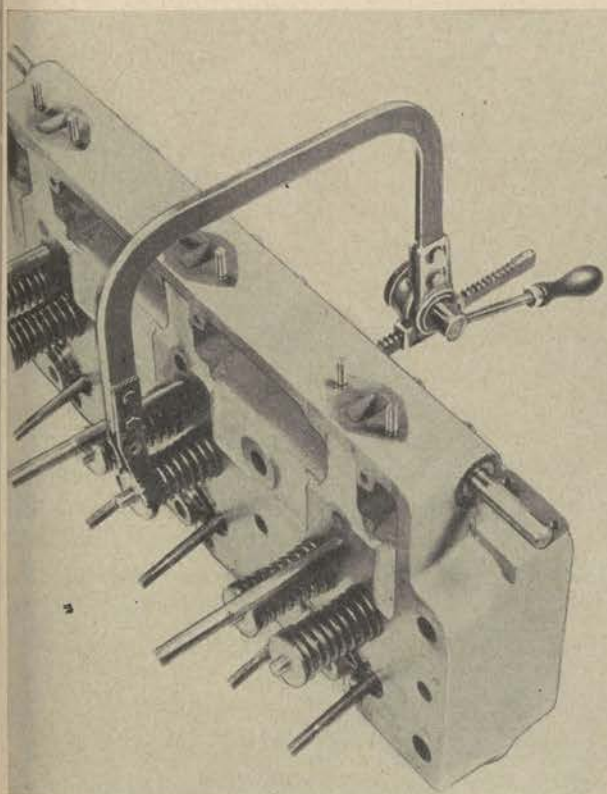

Figure 147. Compressing valve springs.
(d) *Valve removal.* With the cylinder head removed, use a valve spring compressor to take the valves out of the head. (See fig. 147.) Com-
(5) *Valve lifter and guide assembly.* The valve lifters and guides are located on the right side of the engine block. To remove them or make replacements, take off the valve rocker covers and valve rockers and lift out the push rods. Compress the springs (fig. 147) to permit the tube assemblies that enclose the push rods to be lowered and removed. If the packing at the upper or lower ends of these tubes is damaged, replace it. Remove the yokes which hold the valve lifter guides in the cylinder block and withdraw the guides and lifters. Be careful that the lifters do not fall into the crankcase as the guides are removed. Retighten the nuts on each of the yokes, after the engine has been under operation for a few days, so as to seat the lifter guides against the cylinder block.